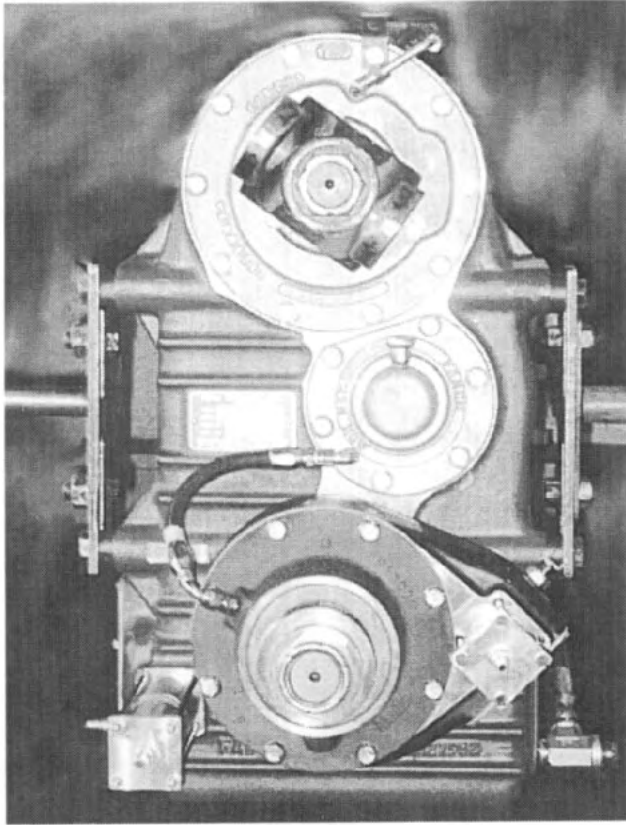

Fig. 107
**NOTE:** THE OIL DRAIN CAVITY ON THE CARRIER MUST BE IN THE 6 O'CLOCK (BOTTOM) POSITION. THE OIL FITTING IS IN THE 10 O'CLOCK POSITION. Refer to Fig. 107.